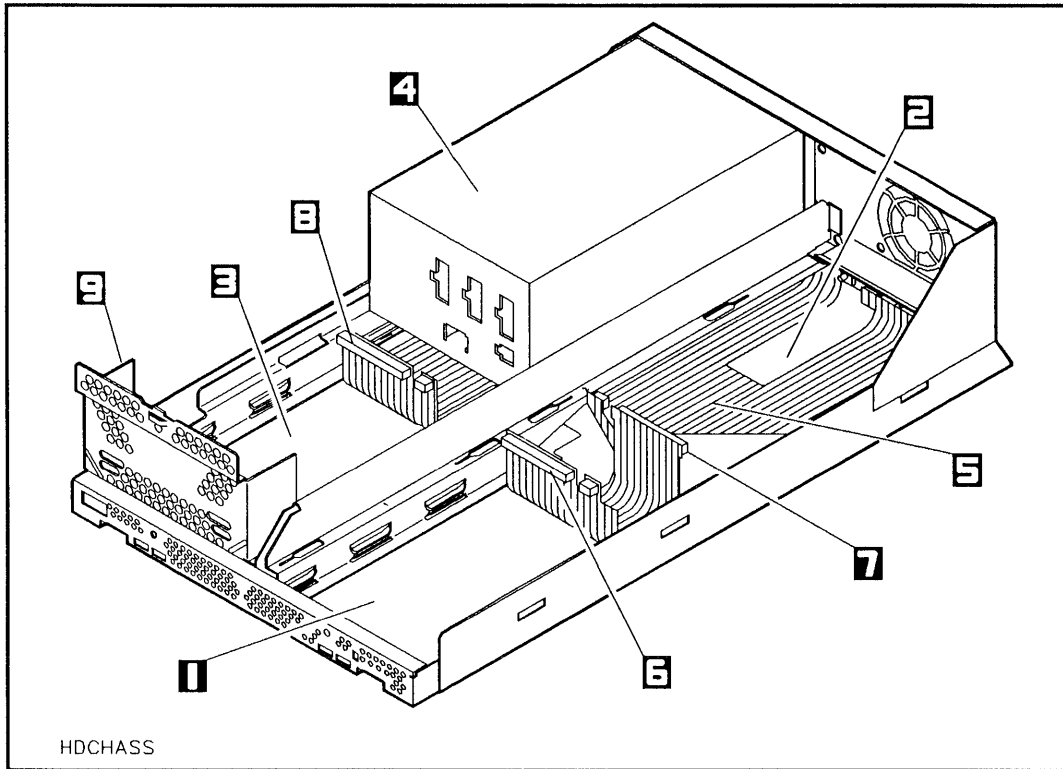
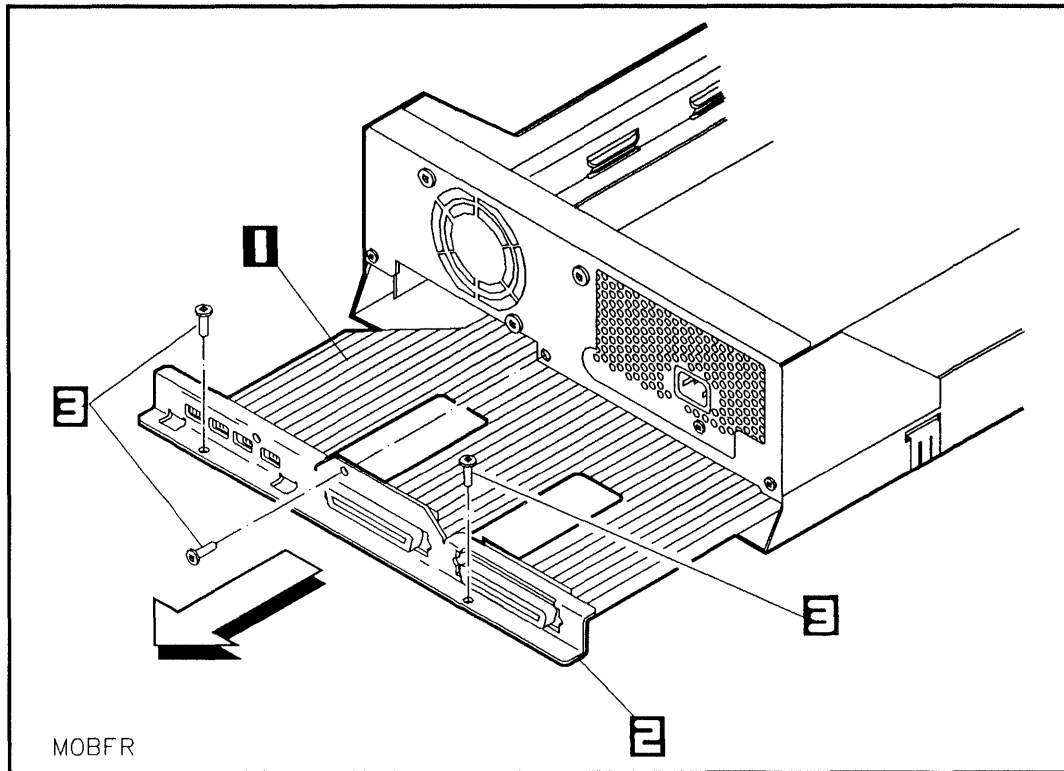

Figure 3-8. Mass Storage System Chassis
Figure 3-9. Removing the BEND/flex Cable
The rewritable optical disk drive and the rewritable optical controller PCA can ONLY be installed into slot 1. If your mass storage system was shipped with a hard disk drive in slot 1, you must remove the hard disk drive from slot 1 (refer to chapter 2). Figure 3-8 shows the mass storage system chassis after the hard disk drive has been removed.
The rewritable optical disk drive and the rewritable optical controller PCA can only be installed into slot 1. If your mass storage system was shipped with a digital audio tape drive in slot 1, you must remove the digital audio tape drive from slot 1 (refer to chapter 5). Figure 3-8 shows the mass storage system chassis after the digital audio tape drive has been removed.
To remove the BEND/flex cable, proceed as follows (see Figure 3-8 and Figure 3-9):
6. Slide the BEND/flex cable and the SCSI I/O plate out the rear of the chassis (see Figure 3-9).